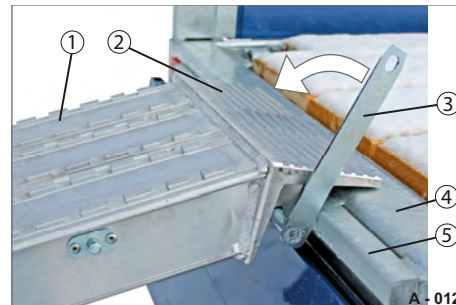

Fig. 16 Locking lever opened
- Lay the run-on plate (Fig. 16/2) on the loading platform edge (Fig. 16/4).
- Pull the locking lever (Fig. 16/3) down.